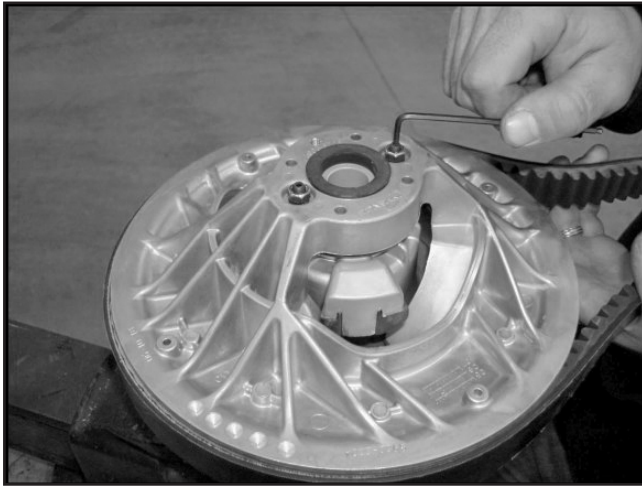

Figure 7-5 Turn the adjustment set screw.
3. Using an allen wrench, turn the adjustment set screw either in (to lower the belt) or out (to raise the belt) between the clutch sheaves. Figure 7-5.